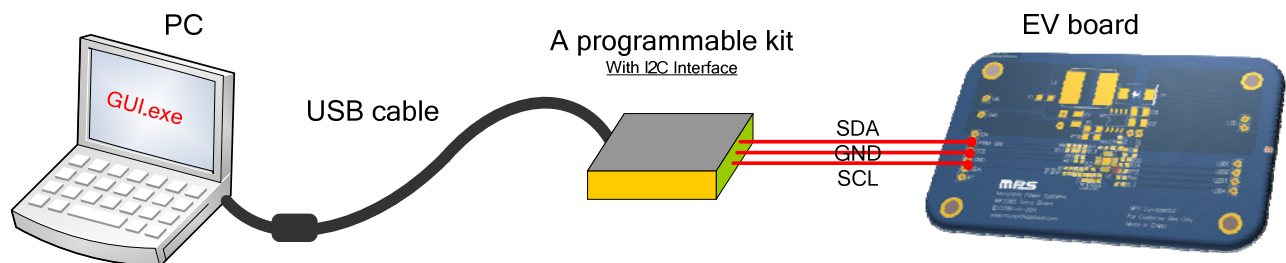

Figure 1—I²C Interface Connection
Please prepare the relative devices and connecting lines before testing, including a computer (PC), a programmable kit with I²C interface, MP3385 EV board, one USB cable and three connection wires with plugs. All the devices are ready, complete connection including the three devices shown in the figure 1.